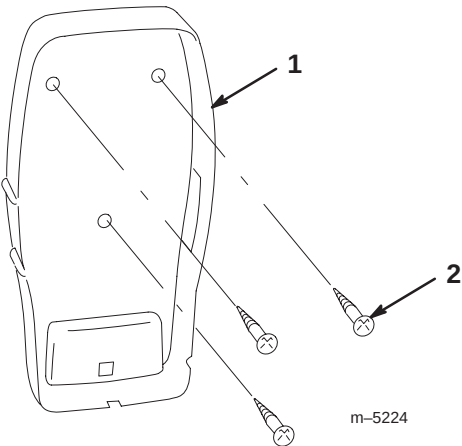

Figure 7
- Mount the perimeter switch permanently with three screws (Fig. 7).